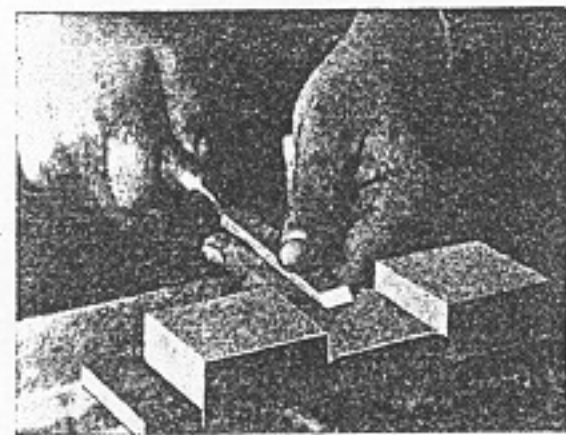

Fig. 201. Chiseling middle- or cross-lap joint, bevel up. Finishing cut.
6. The joints may be finished with a very sharp chisel. Chiseling is done across the grain with the flat side of the chisel in contact with the wood (Fig. 201). Only light cuts are taken. The joint also may be finished with a router plane.